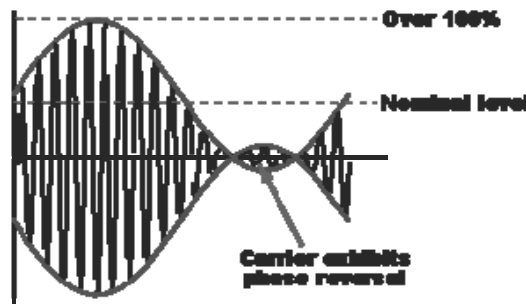

Fig. 4.3: $m > 100$
3. Vary V_m , such that we get waveform on CRO as in Fig 4.3. Calculate m .